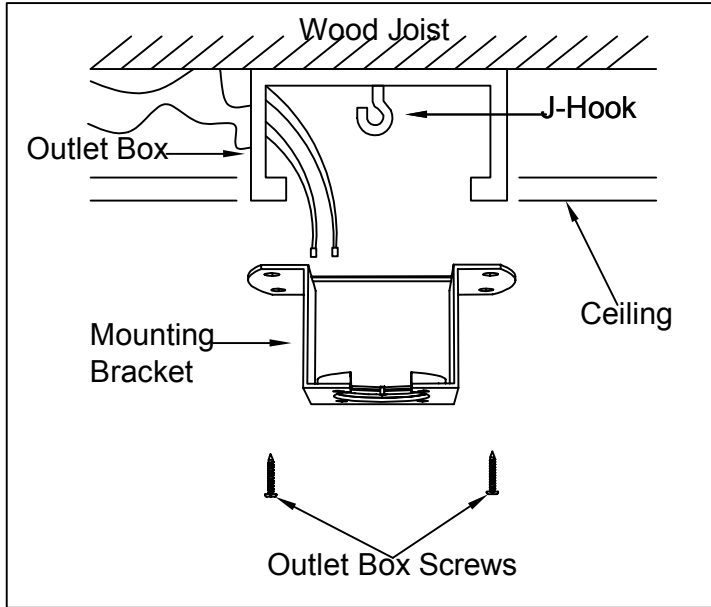

Figure 2.1
- Install J-Hook through center of outlet box and into the wooden joist.(Figure 2.1)